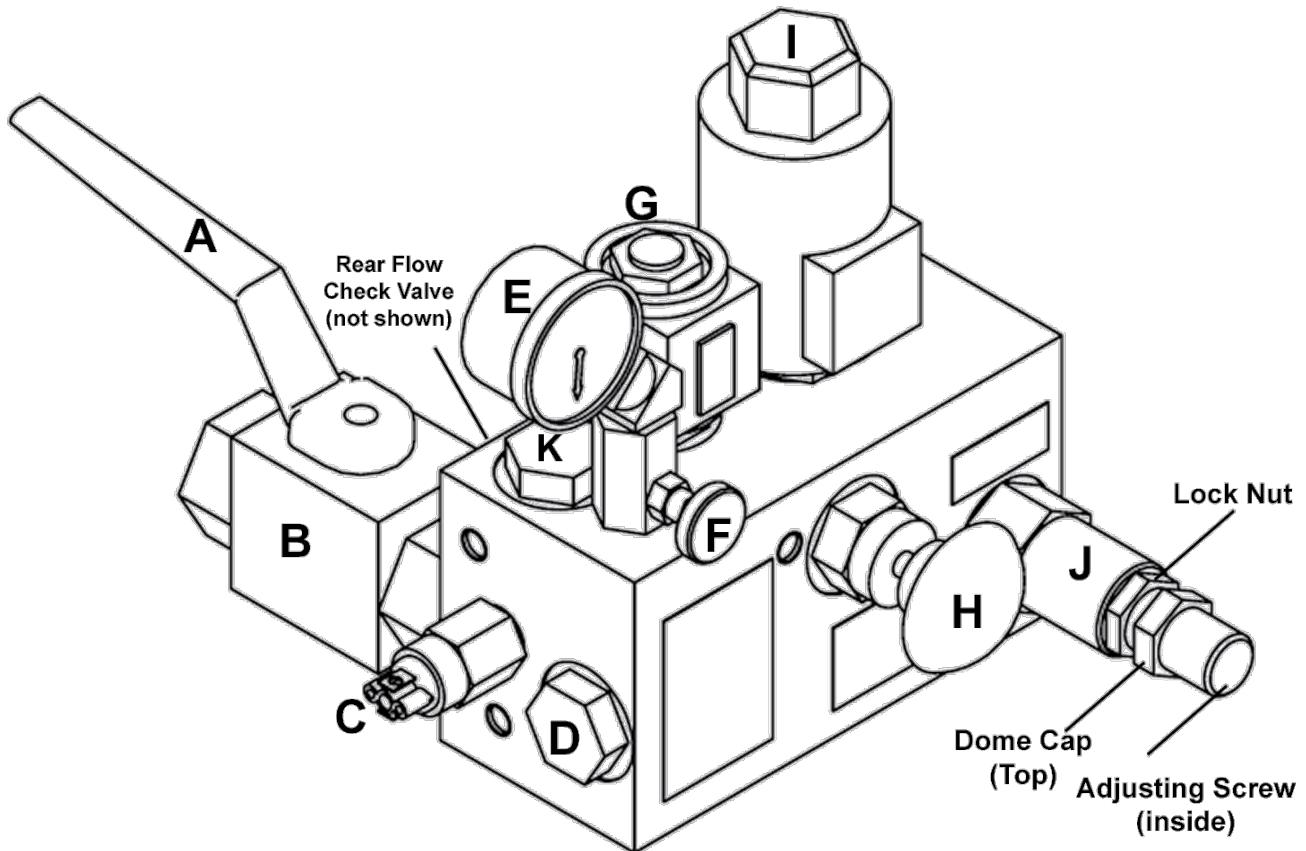

Figure 116 EPV 4-7 Variable Speed Valves
- 1) Remove the dome cap on the relief valve and expose the Allen Head adjusting screw and lock nut. Refer to Figure 116/J.
- 2) Loosen the lock nut and place a $\frac{1}{4}$ " (6 mm) Allen wrench in the adjusting screw. Initially, turn the adjusting screw out at least two (2) full turns.
- 3) Close the Main Shut OFF valve with the rear handle. (Figure 116/A)
(Figure 116/117 E, F)
(Figure 116/117 K)
- 2) Pull on the Manual Lowering Release (Figure 116/117 H) and observe the hydraulic plunger. There may be a slight movement of the plunger as the remaining pressure bleeds off. The plunger will remain in position while the manual lowering handle is held open, some slack cable may occur.
(Figure 116/117 C)
- 1) To test the switch on-site, place the leads of a VOM test meter directly on the DOWN solenoid and across the two solenoid connections. Refer to Figure 116/117 E.